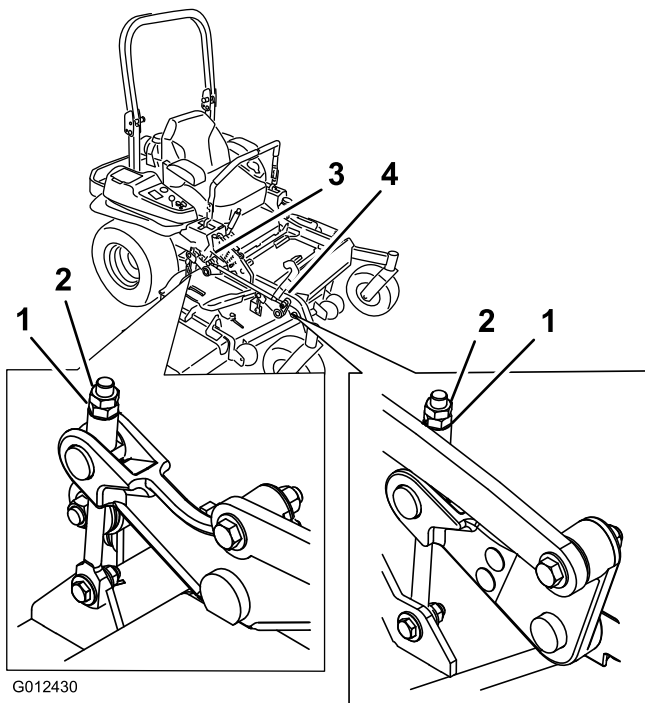

Figure 93
10. Fine-tune the adjustment nut on the front deck lift assembly by turning it (Figure 93).
16. Fine-tune the adjustment nut on the front deck lift assembly by turning it (Figure 93).